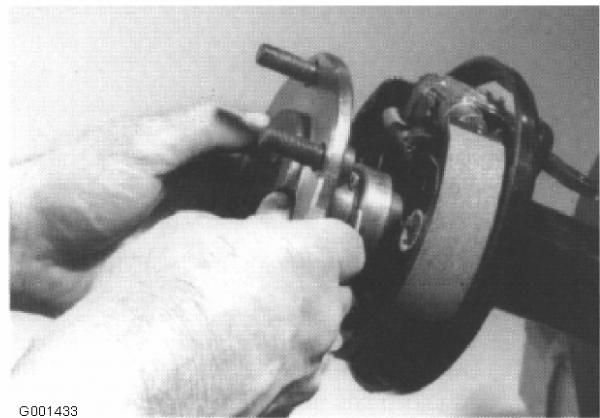

Figure 5
- 2. Remove the axle shaft from the tube (Figure 5).